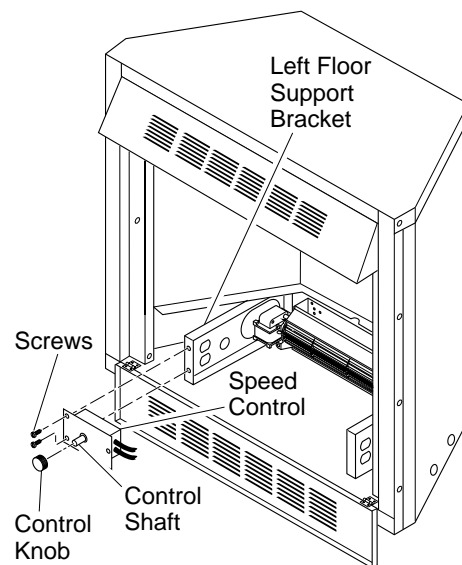

Figure 18 - Attaching Speed Control to Firebox
8. Mount the speed control on the front leg of the left floor support bracket using 2 screws provided (see Figure 18).